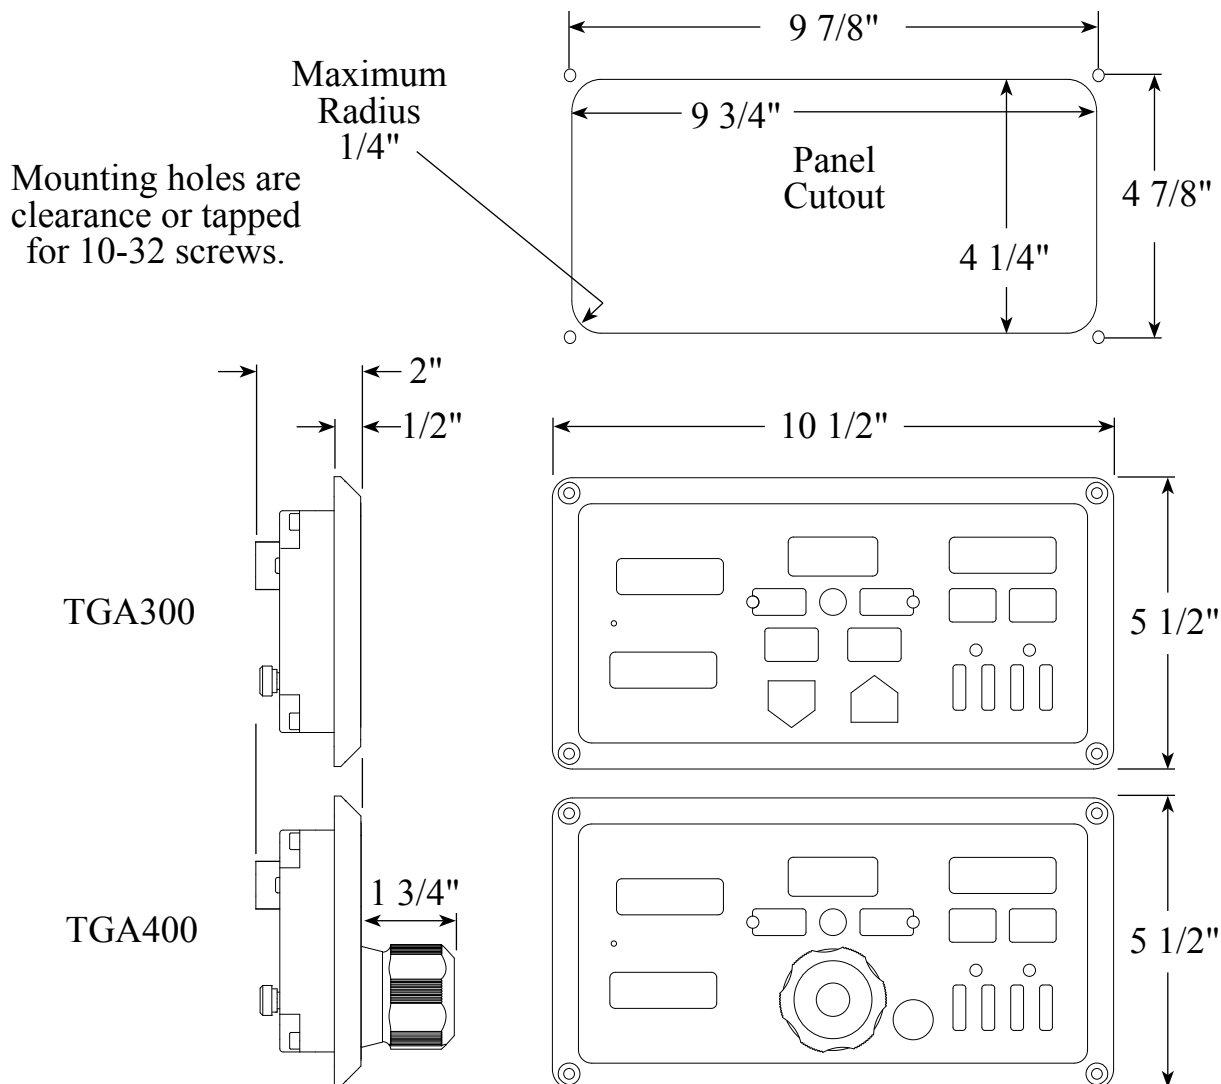

Figure 2. Control Module Mounting Dimensions
1. Measure and mark mounting location for control module panel cutout and mounting screw holes. Make sure there is clearance behind the panel for the module and cables before cutting holes. Refer to Figure 2 for layout and dimensions.